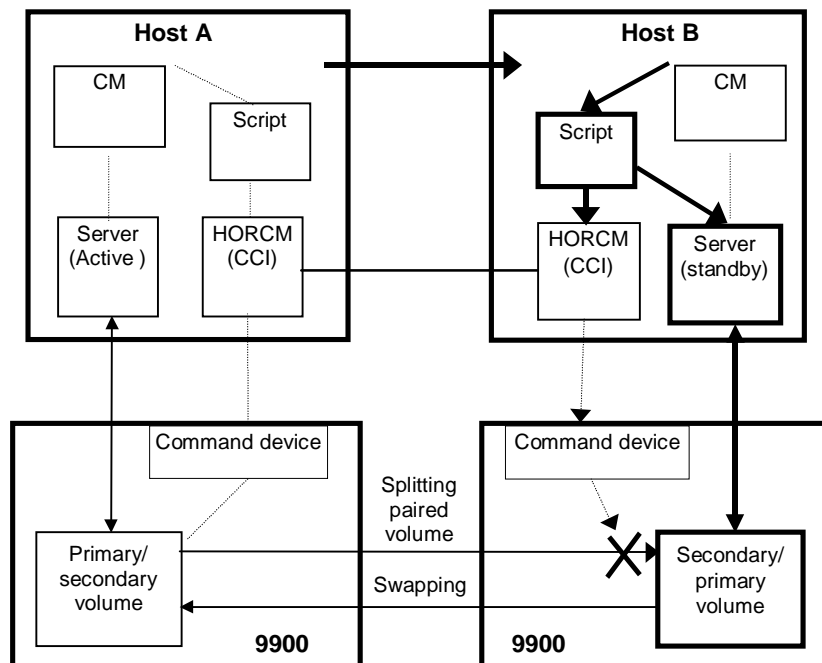

Figure 2.4 Server Failover System Configuration
Figure 2.4 illustrates the server failover system configuration. When a server software error or a node error is detected, the operation of the failover software causes the Cluster Manager (CM) to monitor server programs, and causes the CM of the standby node to automatically activate the HA control script of the corresponding server program. The HA control script usually contains the database recovery procedures, server program activation procedures, and other procedures. The takeover commands provided by HORC are activated by the control HA script and execute the control needed for failover of the server.